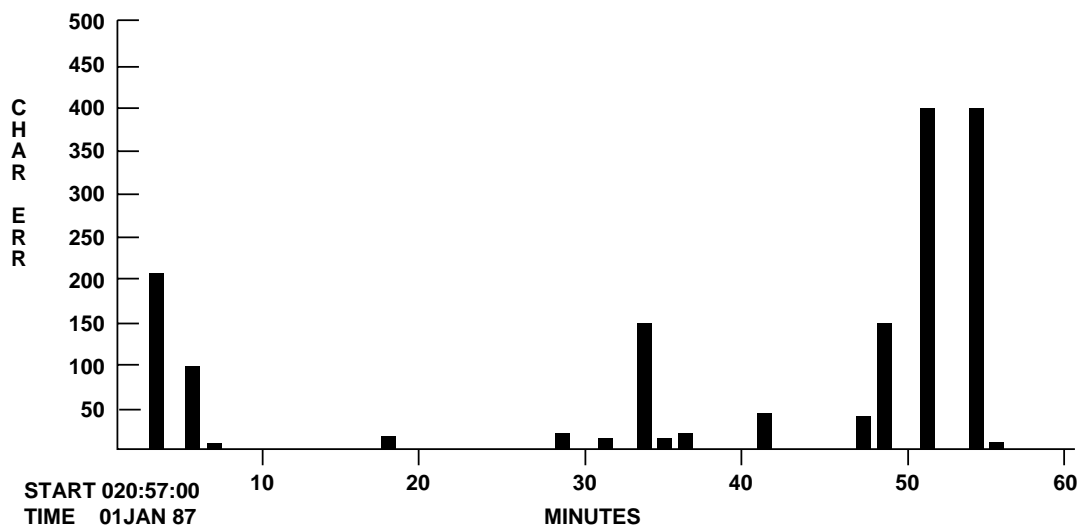

Figure 3-7
13. Press the softkey below the FORMAT menu item to select the printout format. Format choices are GRAPH (Figure 3-7) or LIST (Figure 3-8). LIST provides a printed value for the accumulated result and GRAPH provides a plot of the result value.
Histograms can be generated automatically when the **PRINTER OFF/ON** switch is enabled (the LED in this switch is illuminated). With a printer connected to the FIREBERD printer connector, and auxiliary function 11 (I/O DRIVER SEL) and auxiliary function 37 (PRNT FRMT) set for the printer being used. With ON displayed on the top line of the histogram menu, automatic printouts are generated by the time interval determined by the #SMPLS (samples) and PERIOD menu selections. The time displayed on automatic printouts reflects the time the histogram analysis began accumulating the displayed results. A marker on the horizontal axis of the printout indicates the position of the last sample. An automatic printout causes all three histograms to be generated. Automatic printouts are continuously generated until disabled. Figure 3-7 illustrates an automatic histogram printout in graph format.